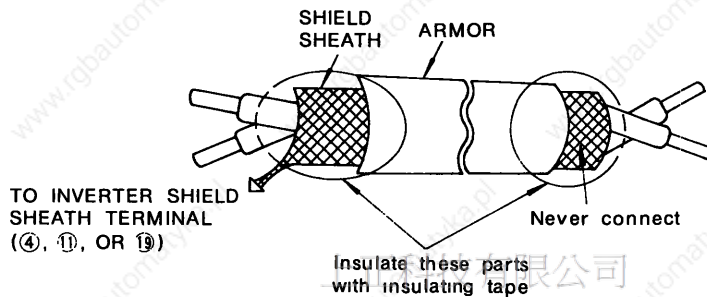

Fig 8 Shielded Lead Termination
(2) Control circuit leads
Use the twisted shielded or twisted-pair shielded lead for the control circuit line and connect the shield sheath to the any of the inverter terminals ④, ⑪, or ⑱. See Fig. 8.